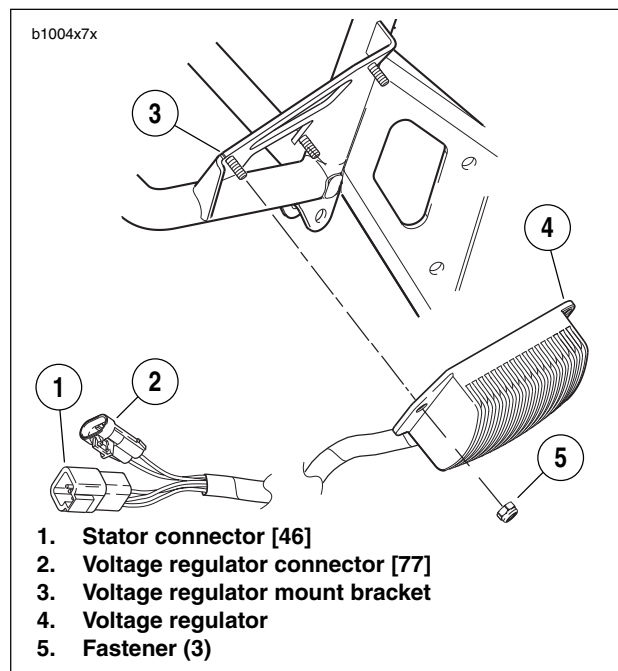

Figure 7-37. Voltage Regulator
3. See Figure 7-37. Disconnect stator connector [46] (1) and voltage regulator connector [77] (2) located under sprocket cover. See 7.26 SPROCKET COVER WIRING.
4. Remove fasteners (5) and voltage regulator (4) from bracket (3).
1. See Figure 7-37. Attach **new** voltage regulator (4) to bracket (3). Tighten **new** fasteners (5) to 48-60 **in-lbs** (5.4-6.8 Nm).
2. Connect stator connector [46] (1) and voltage regulator connector [77] (2) located under sprocket cover. See 7.26 SPROCKET COVER WIRING.